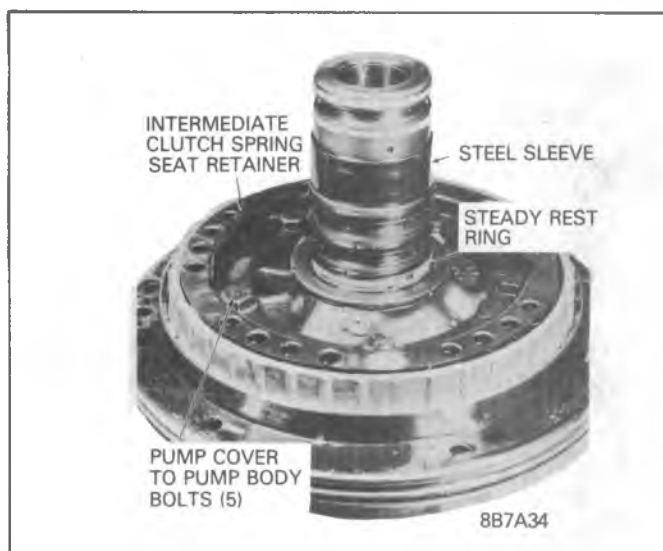

Figure 350C-65 Intermediate Clutch Piston Removal
6. Remove pump cover and stator shaft assembly from pump body. See Figure 350C-68.
6. Remove pump drive gear and driven gear from pump body. Inspect pump gears and cover for wear or scoring. See Figure 350C-69.